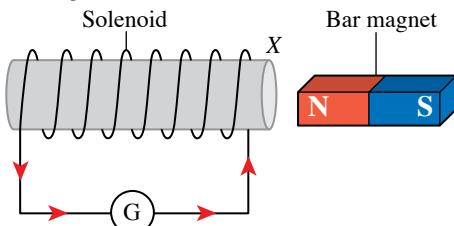
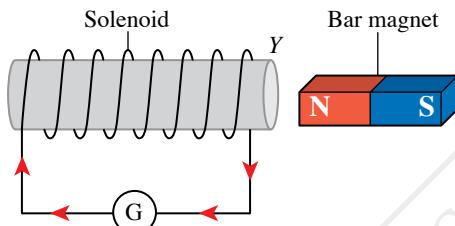

Figure 2
Figure 3
3. Figures 2 and 3 show the induced currents produced when there is relative motion between a bar magnet and a solenoid.
- Based on the direction of the current given in Figures 2 and 3, state the magnetic polarities at ends X and Y of the solenoid.
- State the direction of motion of the bar magnet in Figure 2 and Figure 3.
- Suggest two ways to increase the magnitude of the induced current in Figure 3.